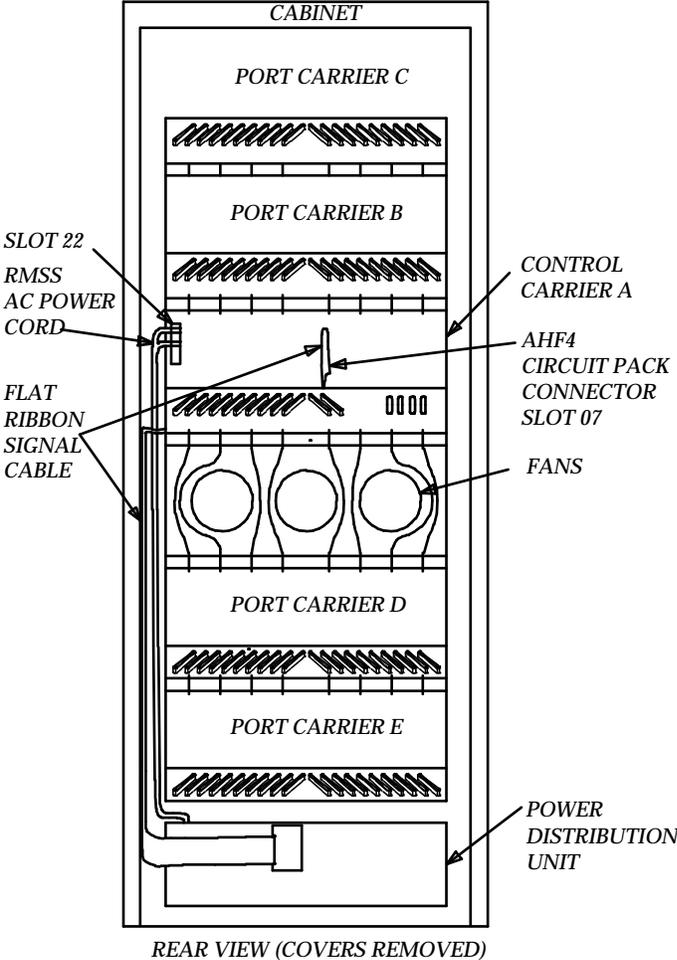

FIGURE 2-19. R1V3 System Cabinet—Rear View, Covers Removed
2. Disconnect the AHF4 cable adapter from the rear of the “A” carrier (see Figure 2-19).